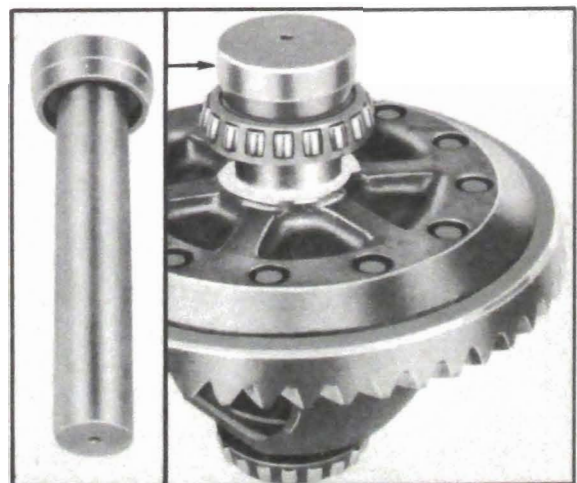

Figure 5-17—Installing Differential Bearing Using Replacer J 2242
3. Install bearing, using Replacer J 2242, which is designed to pilot in the case and bear squarely against bearing inner race. See figure 5-17. Bearing must be pressed tight against shoulder on case.